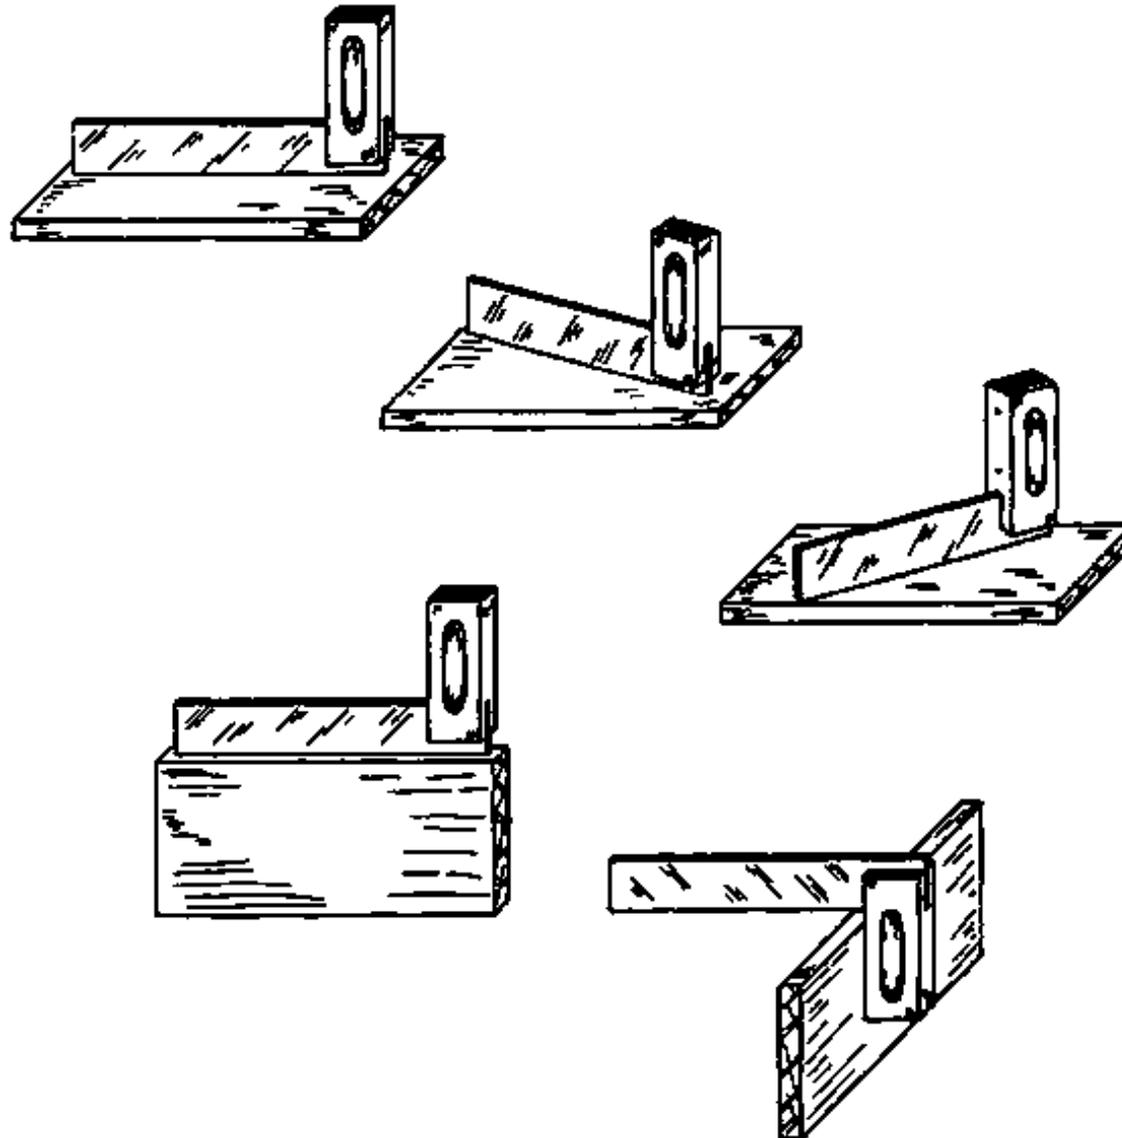

Fig. 3
**Test with the try square or the edge of a jack plane in different positions for flatness. Also test the squareness of the edges with a try square at a few different spots (Fig. 3).**